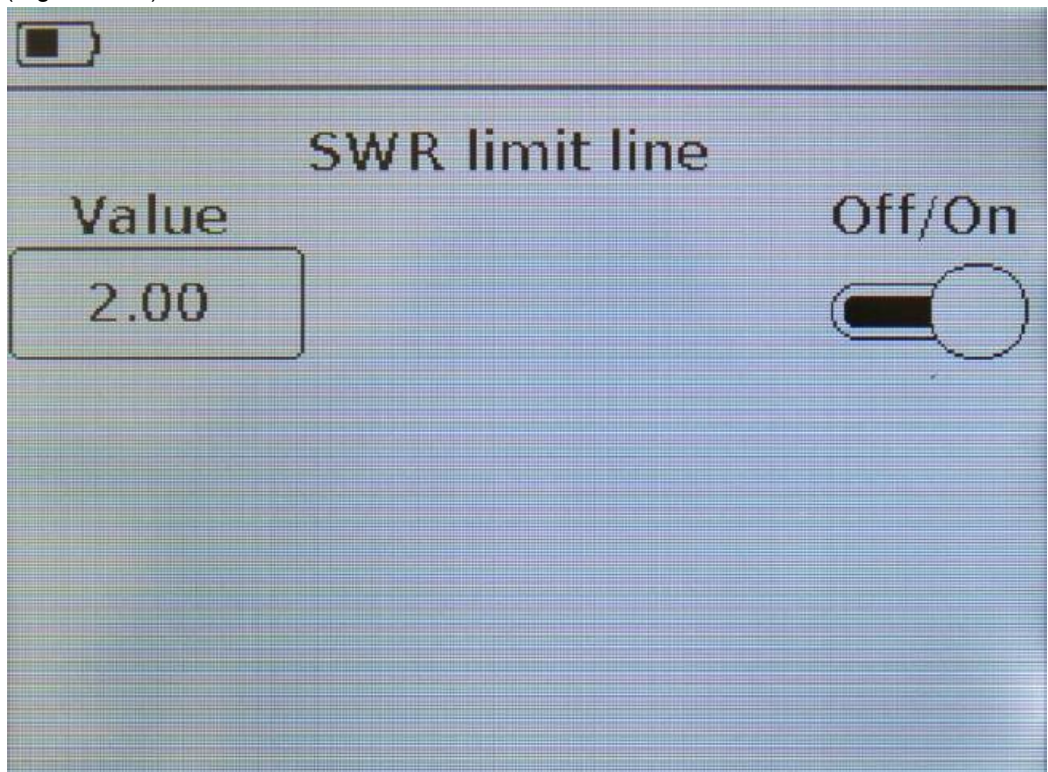

Figure 8.20 – Turning on the display of the VSWR limit line on the Smh, Pol charts and SWR plot
- Enter the Plots menu as indicated in section 8.3. and by clicking on the field with the designation of the chart Smh, Pol or SWR plot, go to the settings menu and display the VSWR limit line (Figure 8.20).
- In the Smh, Pol charts or SWR plot view mode, press and hold the button “plot” for about two seconds and go to the setup menu and display the VSWR limit line (Figure 8.20).
8.8.3. Turning off and on the display of the VSWR limit line on the plots is performed by moving the slider to the Off / On position (Figure 8.20).